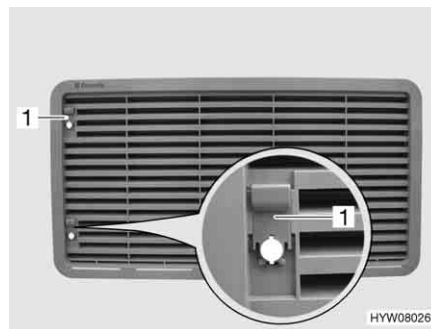

Fig. 187 Refrigerator ventilation grill (with sliding trap)
- Push sliding trap (Fig. 187,1) upward.